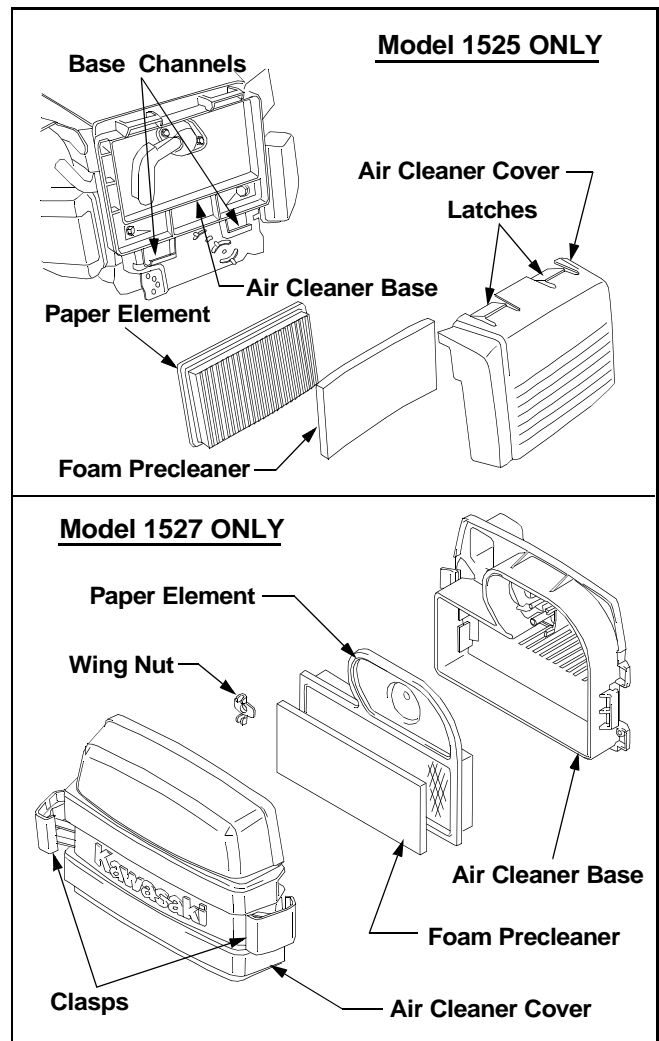

Figure 19
The engine is equipped with a replaceable foam pre-cleaner and paper air cleaner element. See Figure 19. Always examine the air cleaner **before starting the engine.** Check for a buildup of dirt and debris around
- Press down and hold the two latches on the top of the air cleaner cover while rotating the top of the cover away from the air cleaner base. Refer to Figure 19.
- Remove the paper element and pre-cleaner from the air cleaner cover. See Figure 19.
- Pull the two clasps away from the sides of the air cleaner cover; then unhook the clasps from the tabs on the air cleaner base. See Figure 19.
- Insert the two hooks on the bottom of the cover into the two channels of the air cleaner base. Refer to Figure 19.
- Position the air cleaner cover over the base and hook the clasps behind the tabs on the base. Refer to Figure 19.